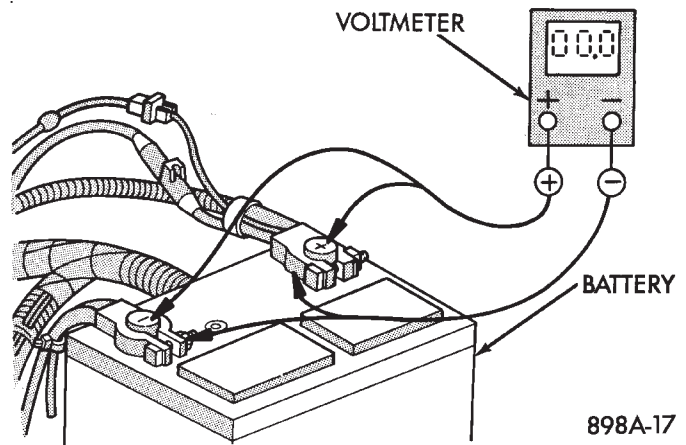

Fig. 3 Test Battery Connection Resistance
(1) Connect positive lead of voltmeter to battery negative post. Connect negative lead of voltmeter to battery negative cable clamp (Fig. 3). Rotate and hold ignition switch in the START position. Observe voltmeter. If voltage is detected, correct poor contact between cable clamp and post.
(2) Connect positive lead of voltmeter to battery positive post. Connect negative lead of voltmeter to battery positive cable clamp (Fig. 3). Rotate and hold ignition switch in the START position. Observe voltmeter. If voltage is detected, correct poor contact between cable clamp and post.